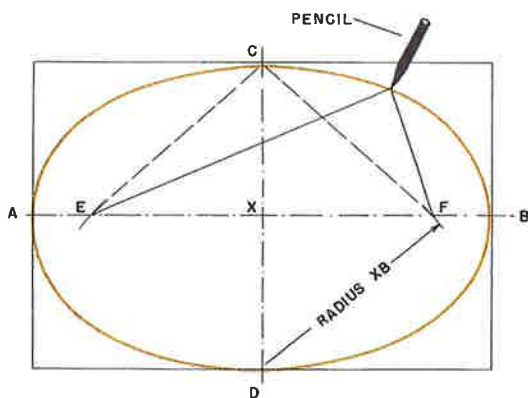

Fig. 13-8. Drawing an ellipse.
1. Decide on the desired width and length of the ellipse (Fig. 13-8).
2. Draw a rectangle with sides representing the width and length of the ellipse (Fig. 13-8). Draw this directly on the wood or on a suitable template.
3. Divide the rectangle *through the center* with horizontal line *AB* and vertical line *CD* (Fig. 13-8).
4. Set the dividers to one-half the length of line *AB*. This makes radius *XB* (see Fig. 13-8).
5. Place one point of the dividers on point *D*. Draw an arc which cuts lines *AB* at *E* and *F* (Fig. 13-8).
6. Place brads, thumbtacks, or pins at points *C*, *E*, and *F* (Fig. 13-8).
7. Fasten a string around points *C*, *E*, and *F* to form a triangle, as shown in Fig. 13-8.
9. Place a pencil against the string, starting at point *C*, and draw half of the ellipse *A, C, B* (Fig. 13-8).
10. Repeat step 9 with the pencil point beginning at *D*. This will complete the ellipse (Fig. 13-8).